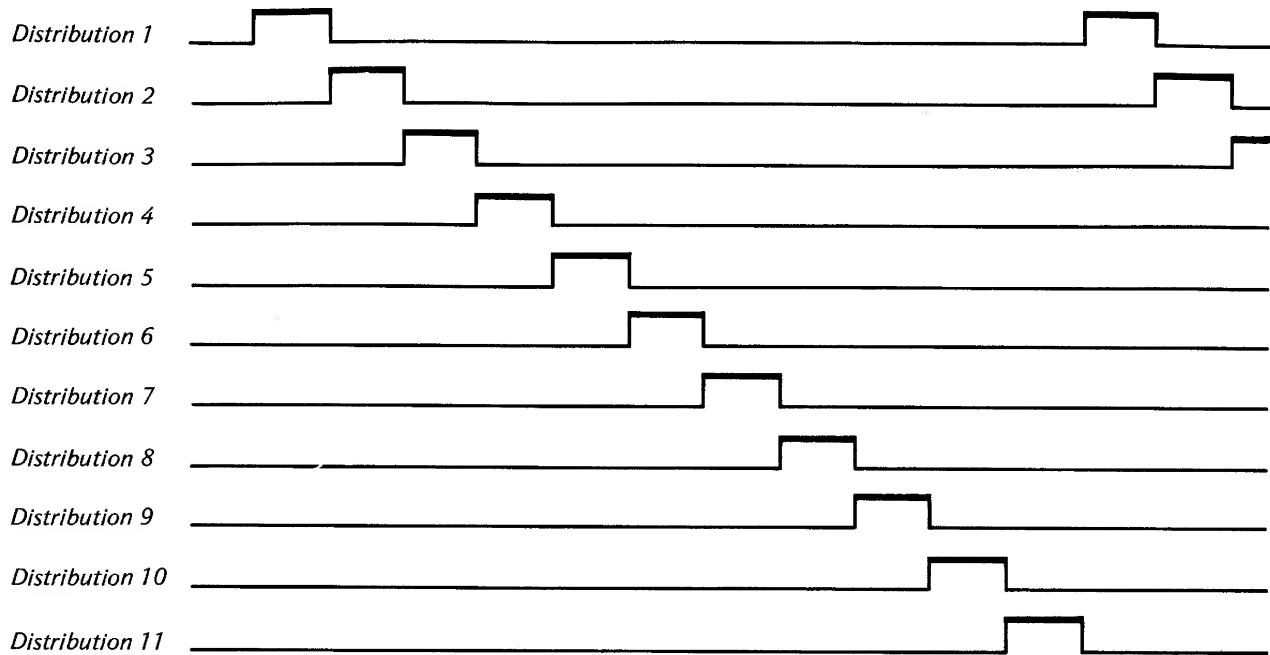
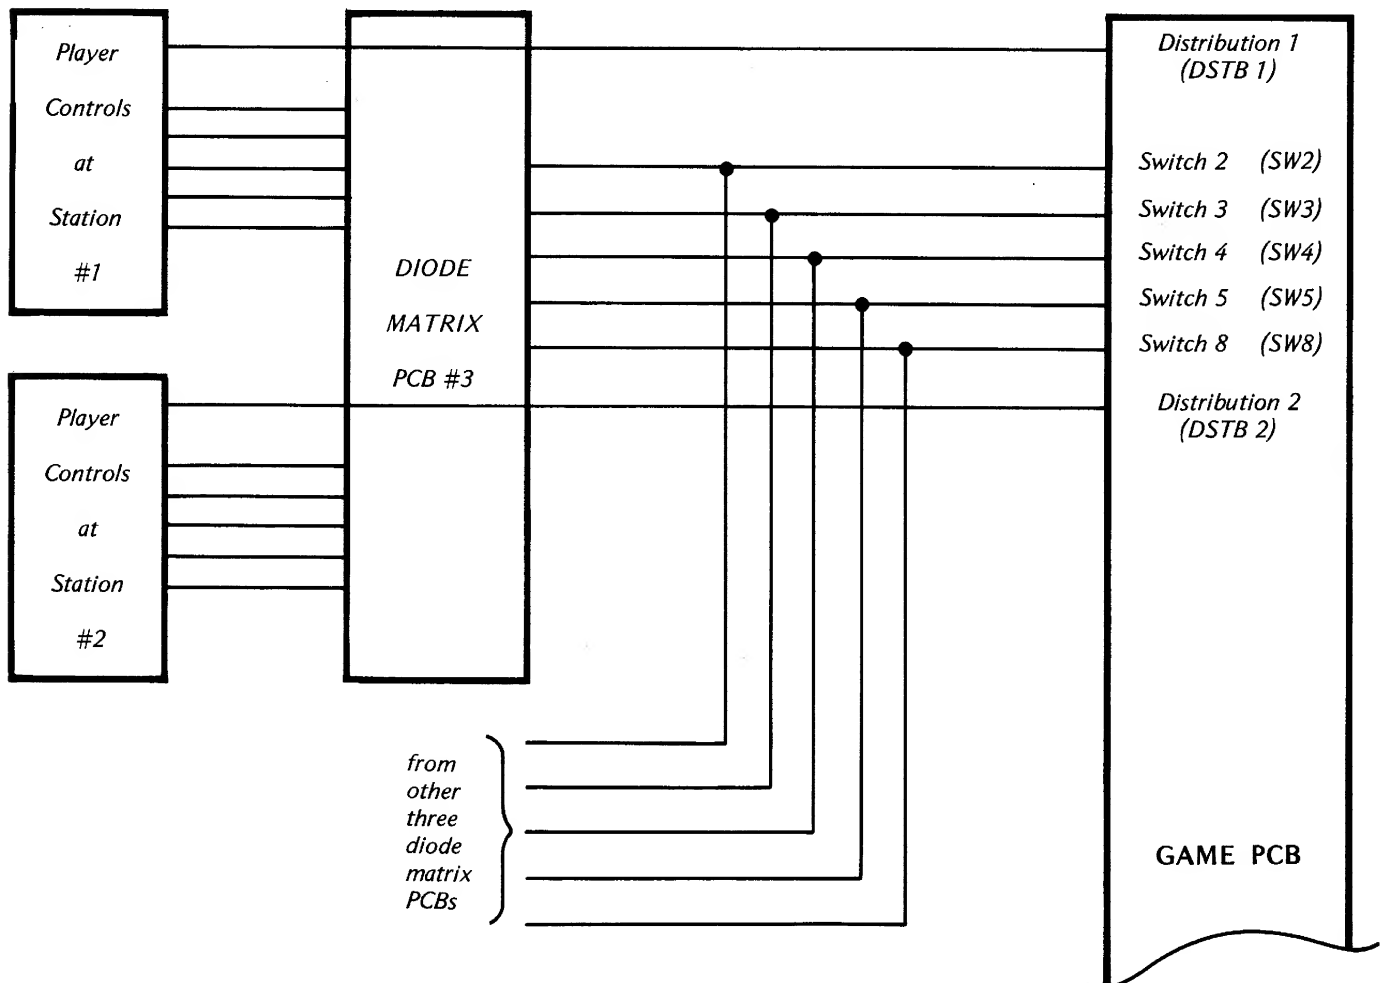

Figure 3-3 Timing Diagram for Distribution Signals
Figure 3-4 Simplified Block Diagram
3.4.2 DIODE MATRIX PCB: Each diode matrix PCB performs a multiplexing function. The game PCB sends out eight "distribution" signals to the diode matrix boards, two signals to each board. The timing of the distribution signals is such that only one signal is present at any one time (see timing diagram in Figure 3-3). As inputs from the diode matrix boards the game PCB receives the five "switch" signals SW2, SW3, SW4, SW5 and SW8. However, the respective switch signals are common for all four boards. In other words, the SW2 signal from all four diode matrix boards is a common line, and so forth for all five switch signals. The connections shown in the simplified block diagram in Figure 3-4 illustrate this arrangement.